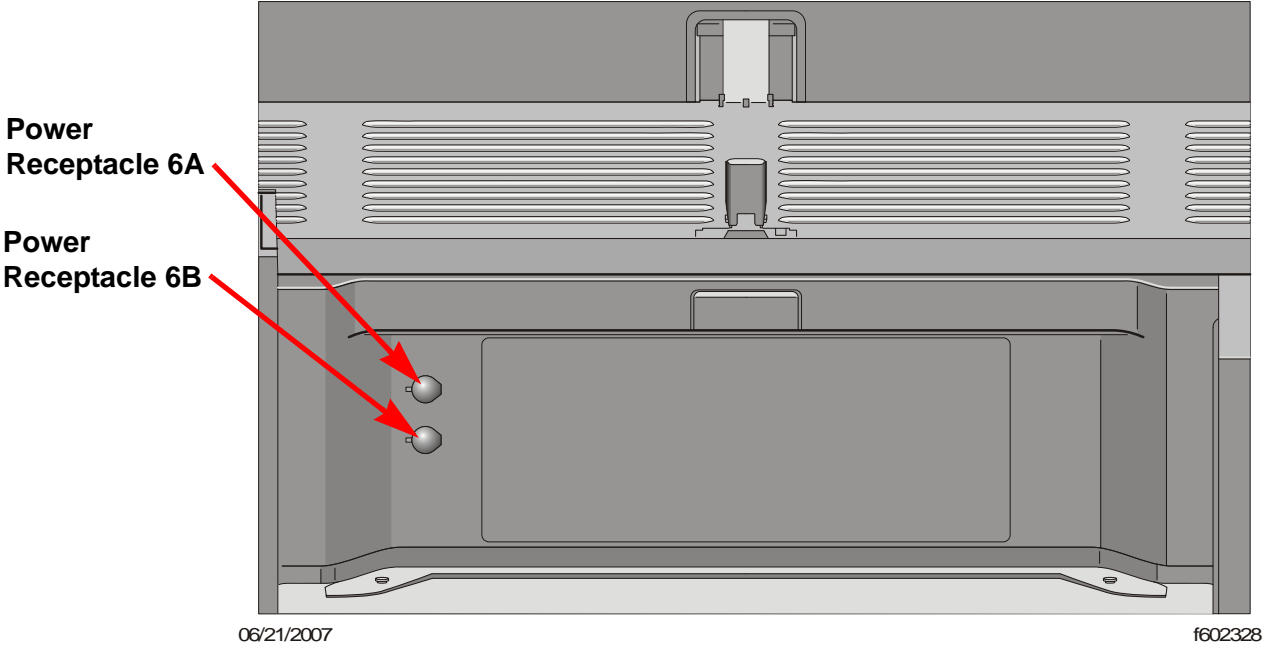

Figure 7-14: Forward Bunk Partition Power Receptacles
- DC power receptacle 6A, forward bunk partition (**Figure 7-14**)
- DC power receptacle 6B, forward bunk partition (**Figure 7-14**)